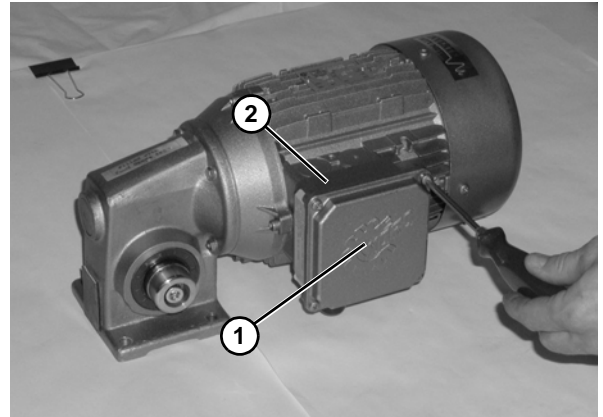

Figure 22
1. Loosen the screws and remove the cover (Figure 22, item 1) from the junction box located on the side of the motor (Figure 22, item 2).